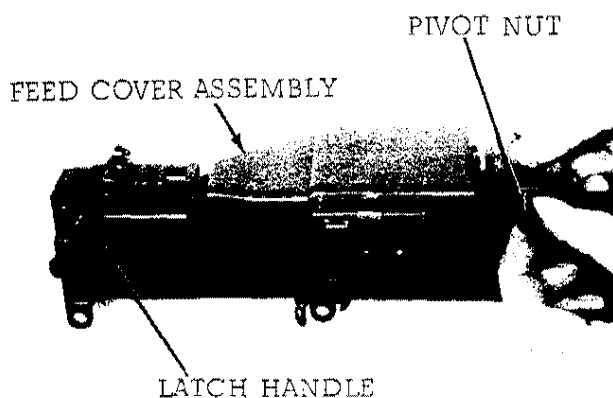
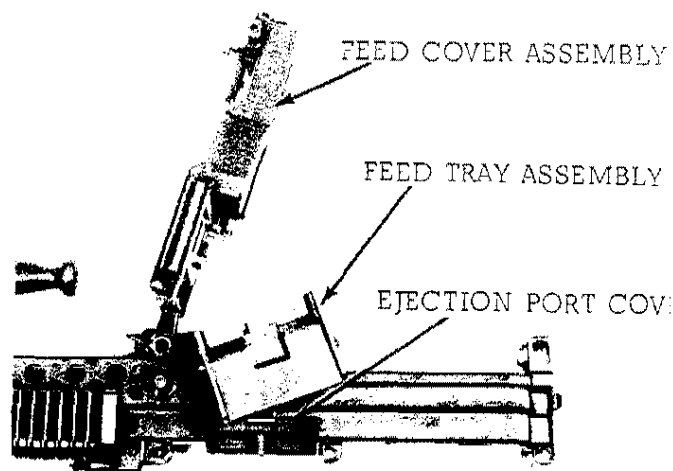

FIGURE 15. REMOVING THE FEED COVER PIVOT NUT AND SCREW
FIGURE 16. REMOVING THE FEED COVER AND FEED TRAY ASSEMBLIES
- (1) Unscrew the pivot pin screw from the pivot pin nut, and remove (figure 15). Push forward on the cover latch handle. Raise the cover and remove the feed cover and feed tray assemblies (figure 16).